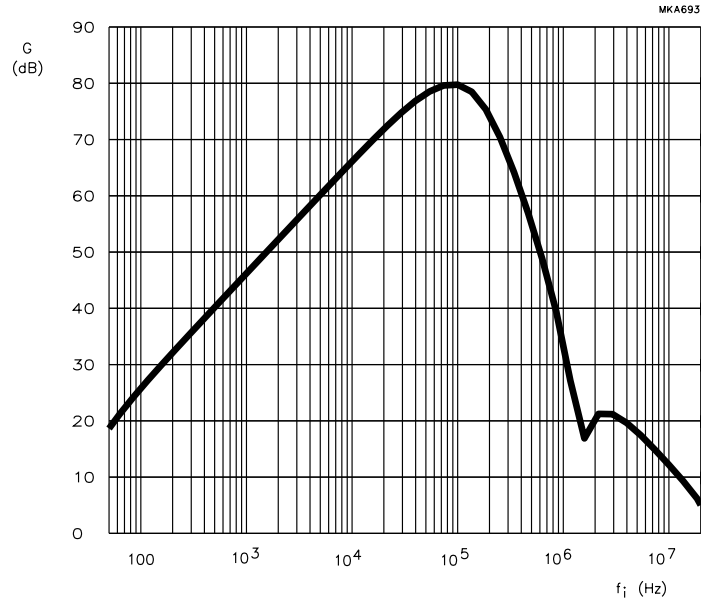

Fig.5 Typical gain of main data channel (AGC off).
- Gain relative to gain at  $f_i = 50 \text{ kHz}$ . See Fig.5 for typical frequency response.